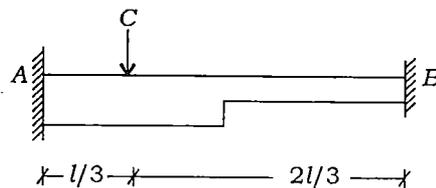

Fig. 6
3. (a) A beam of span l fixed at both ends has to carry a point load at a distance $l/3$ from the left end as shown in Fig. 6. Find the values of load at the collapse condition if the plastic moment of resistance of the left half of the beam is $2 M_p$ while the plastic moment of resistance of the right half of the beam is M_p :